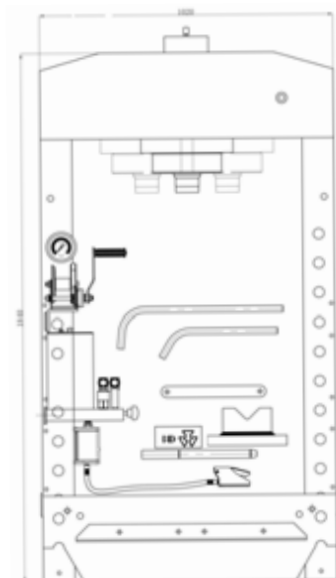

Figure 1
- The bed frame (23) is put at the bottom for convenient for packaging and transport, then fixed on the post (10) by two bolts M12. (figure 1)